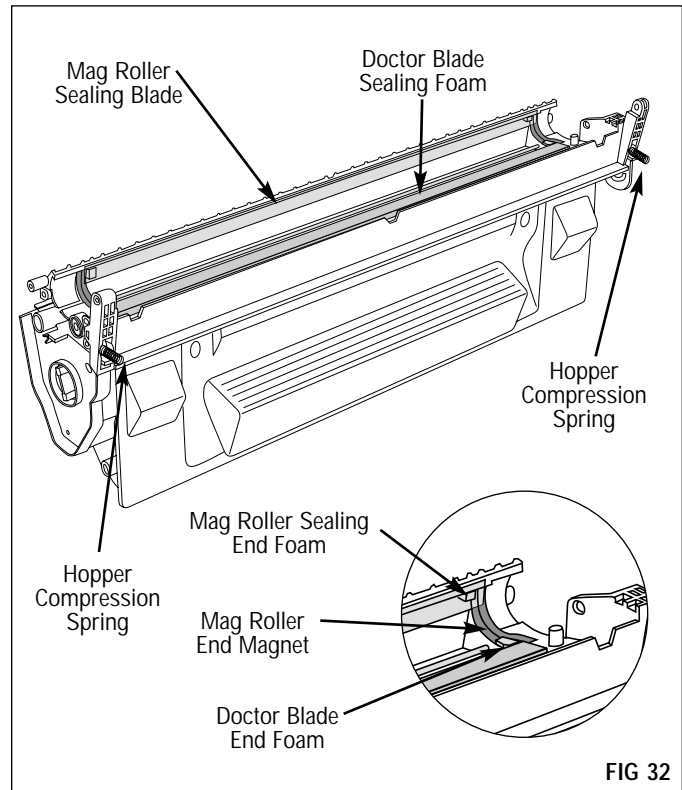

FIG 32
11. Inspect the sealing components in the hopper section and replace as required (FIG 32).